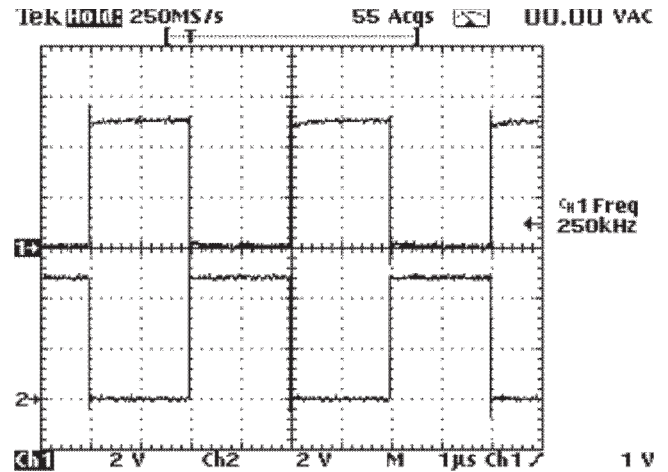

Figure 3.4 The clock drive logic signals.
- The square waves in Figure 3.4 show what the clock drive logic signals should look like on pins 2 and 5 of U4. The signals’ frequency and voltage are 250 kHz and 0 to 5 V.